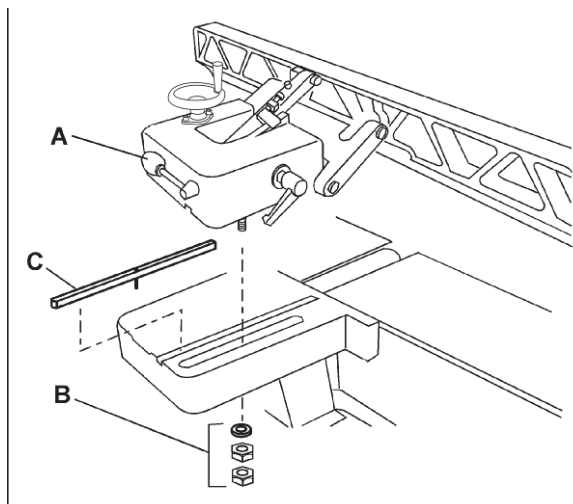
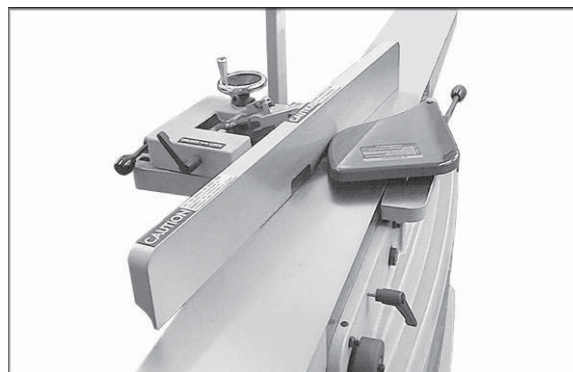

Figure 46
Figure 47
1. Release the fence locking handle (A, Figure 46) and remove the two hex nuts and washer (B, Figure 46) holding the fence to the slide bracket. Remove the fence assembly.
2. Remove the key (C, Figure 46) from the fence support. If necessary, use a flat head screwdriver to pry up one end of the key.
3. Replace the fence assembly at the desired angle across the cutterhead. See Figure 47. Secure the fence to the slide bracket with the hex nuts and washer (B, Figure 46), then tighten the fence locking handle (A, Figure 46).
NOTE: When placing the fence assembly back into normal position, be sure to first install the key (C, Figure 46) into its slot.